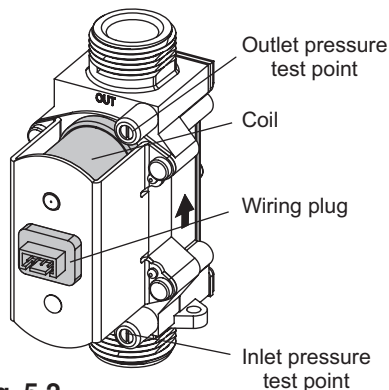

Fig. 5.2
2. Loosen the gas inlet pressure test point screw on the gas valve (see Fig. 5.2) and purge in accordance with BS 6891.